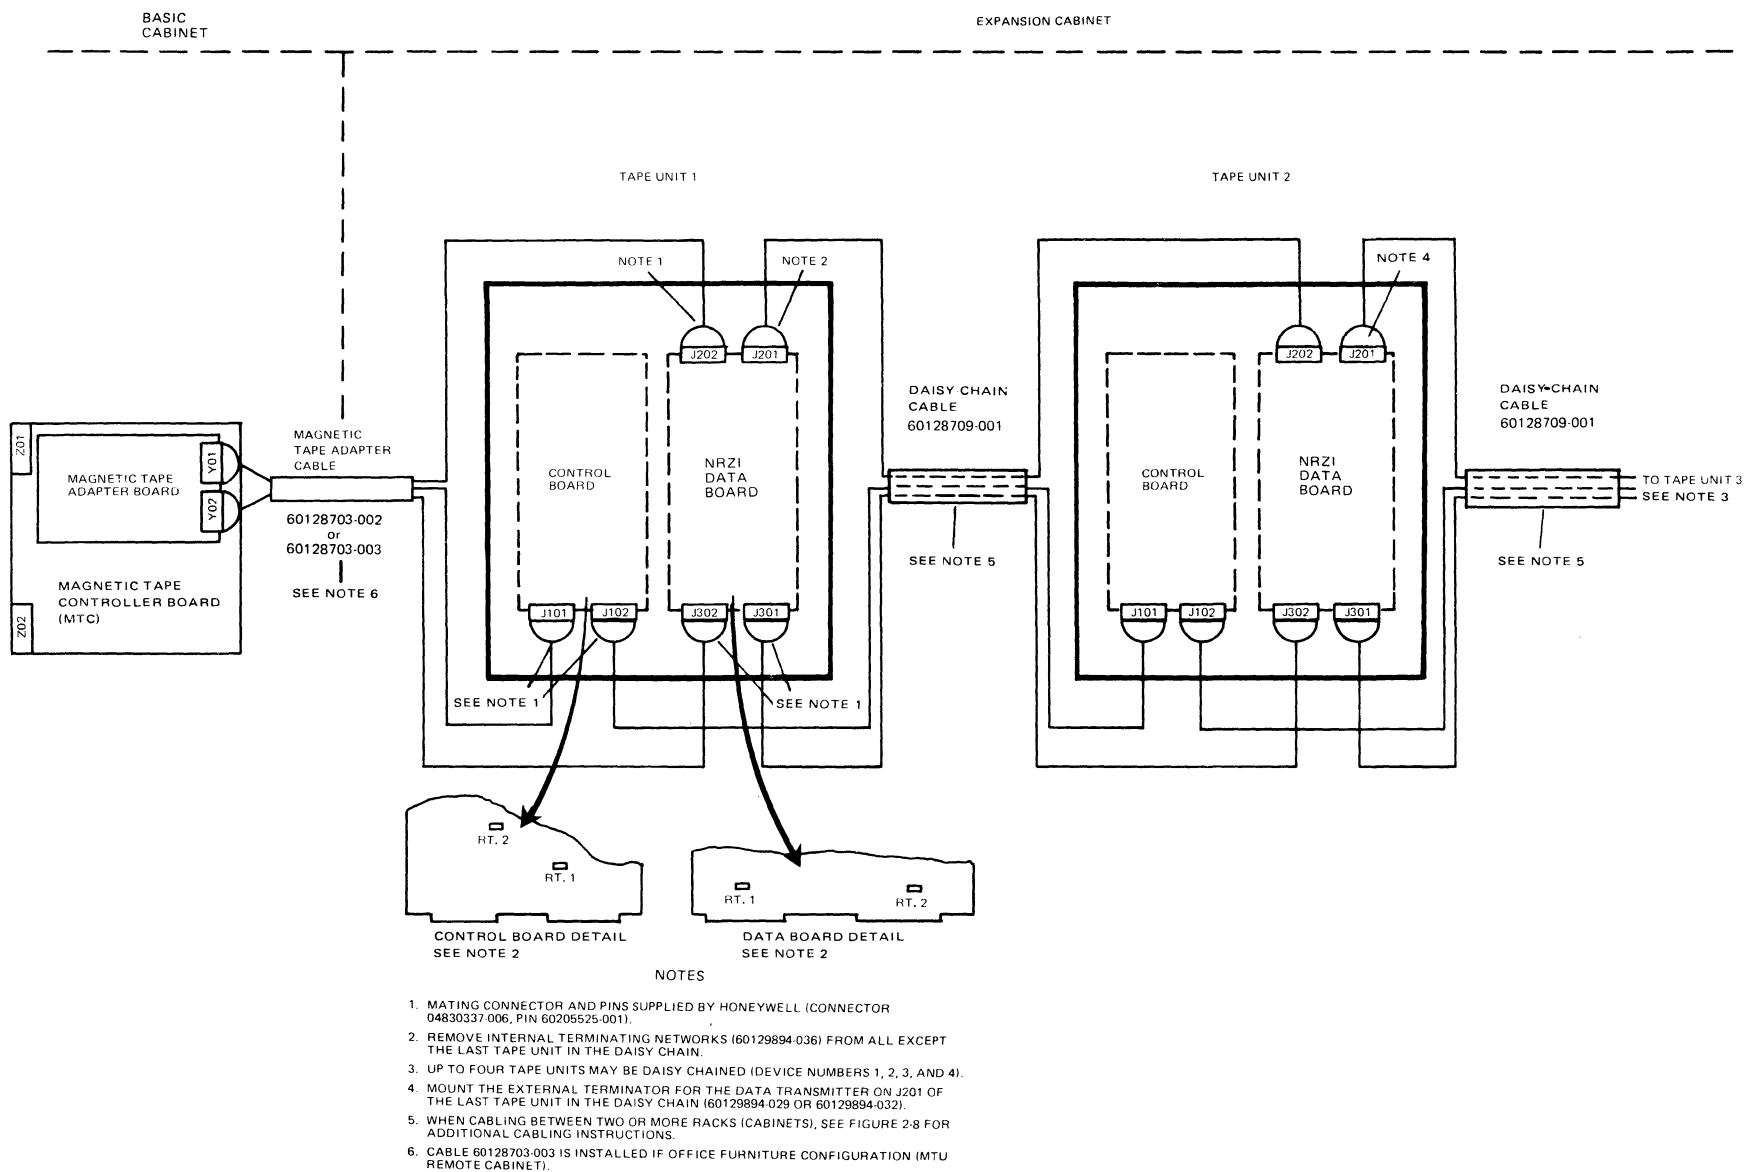

Figure 2-7. NRZI MTU Interrack/Intracabinet Cabling Configuration - Nonbulkhead System
To cable the first MTU from the Magnetic Tape Controller (adapter board) in the basic cabinet (see Figure 2-7), perform the following procedures.
Ensure that the first MTU cabling procedures are performed in the configuration (see Figure 2-7). Then, from the first MTU, verify or connect the connector plugs as follows:
2. At the second MTU (see Figure 2-7) verify or connect the connector plugs as follows:
The last MTU in the daisy chain must have an external terminator (see Figure 2-7) connected to J201 at the top of the MTU NRZI data board (external terminator part no. 60129894-029 or 60129894-032).
5. Ensure that the internal terminator networks RT1 and RT2 (see Figure 2-7) are removed from the MTU control board and MTU NRZI data board in all MTUs except the last MTU in the daisy chain (terminating network part number 60129894-036).